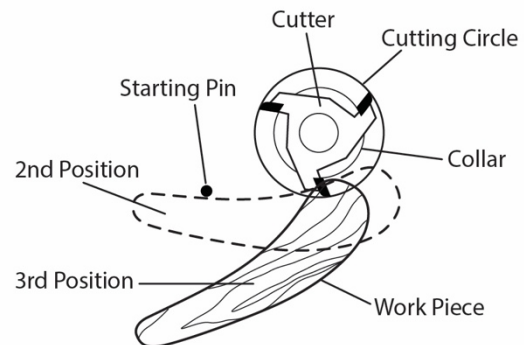

Figure 21
2. After starting the cut, swing the work free of the starting pin so it rides only against the collar (see the third position, Figure 21). Always feed against the action of the cutter.